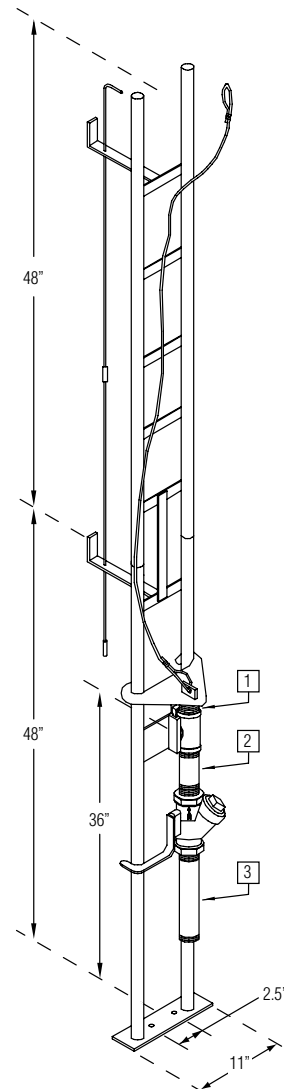

Figure 1: SGR125 and SGR200 Typical Assembly
2. Lower the assembled rail system into the basin and attach wall bracket to rail system using supplied fasteners. Fasten the wall bracket to the side of the basin. A typical assembly is shown in Figure 1.